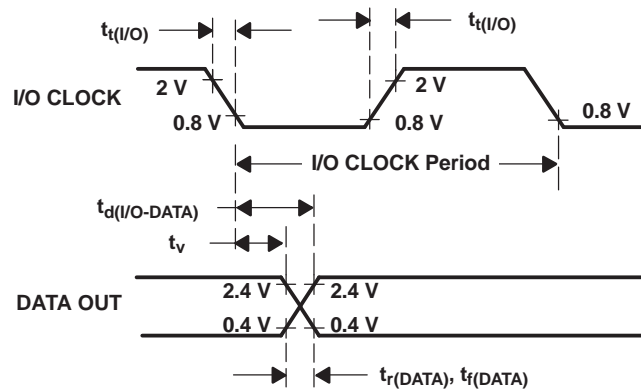

Figure 6. I/O CLOCK and DATA OUT Voltage Waveforms
- (3) Zero-scale error is the difference between 000000000 and the converted output for zero input voltage; full-scale error is the difference between 111111111 and the converted output for full-scale input voltage.
- (4) Analog input voltages greater than that applied to REF+ convert as all ones (111111111), while input voltages less than that applied to REF- convert as all zeros (000000000). The device is functional with reference voltages down to 1 V ( $V_{ref+} - V_{ref-}$ ); however, the electrical specifications are no longer applicable.
- (5) Total unadjusted error comprises linearity, zero-scale, and full-scale errors.
- (6) Both the input address and the output codes are expressed in positive logic.
- (7) I/O CLOCK period = 1/(I/O CLOCK frequency) (see Figure 6)
- (8) Any transitions of  $\overline{CS}$  are recognized as valid only if the level is maintained for a setup time plus two falling edges of the internal clock (1.425 μs) after the transition.